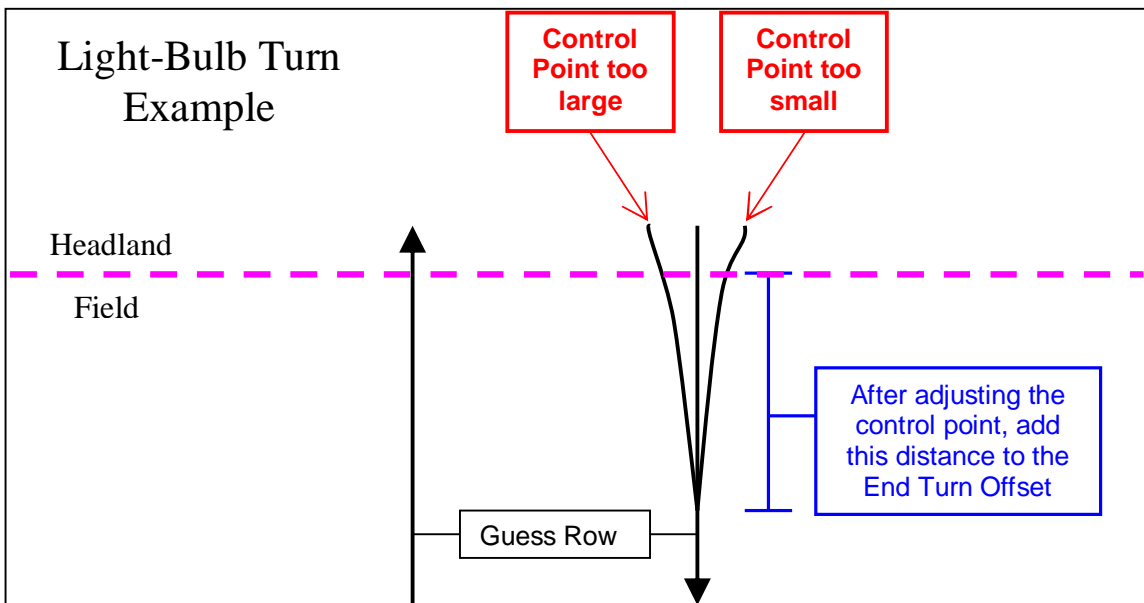

Figure 14
- For light-bulb turns, increase the Control Point to narrow the guess rows and decrease to widen the guess rows. (Figure 14)